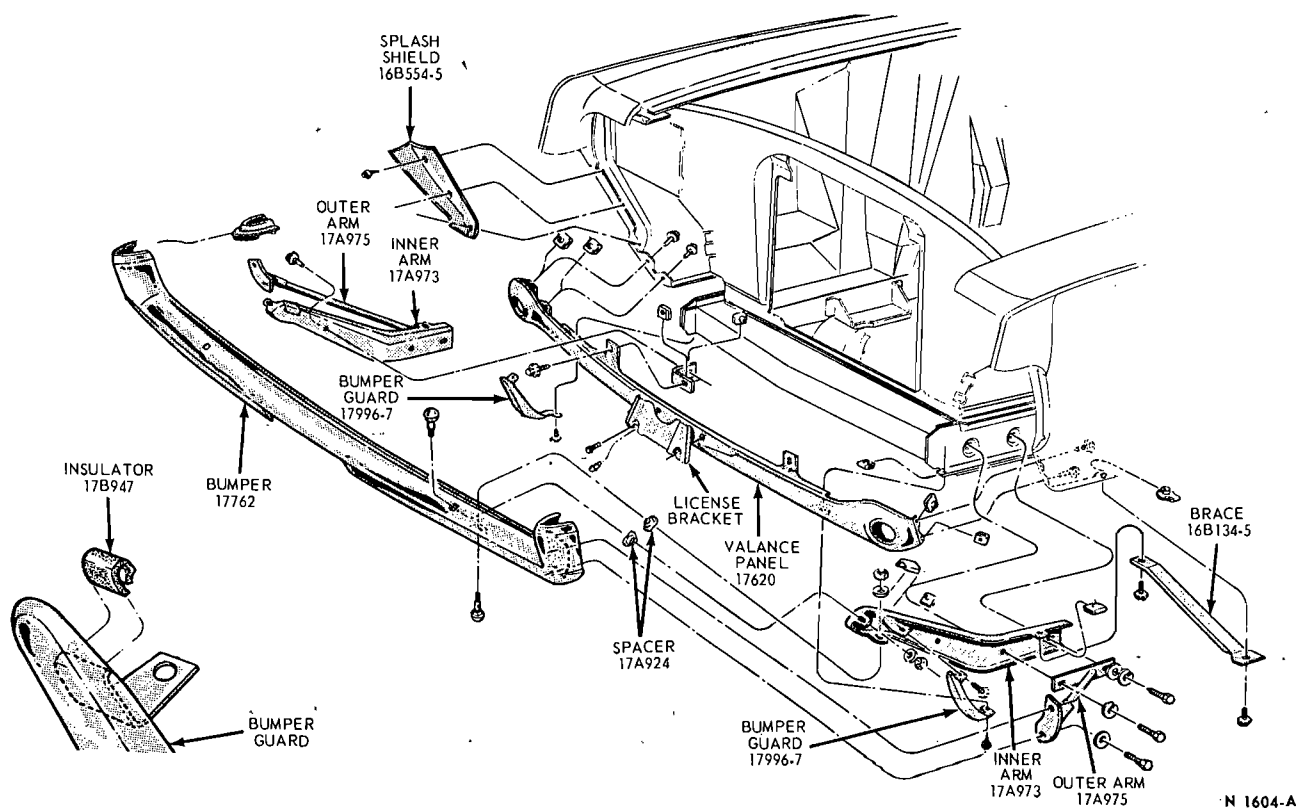

FIG. 13—Cougar Front Bumper
2. Disconnect the parking light wires and remove the valance panel below the bumper (Fig. 13).